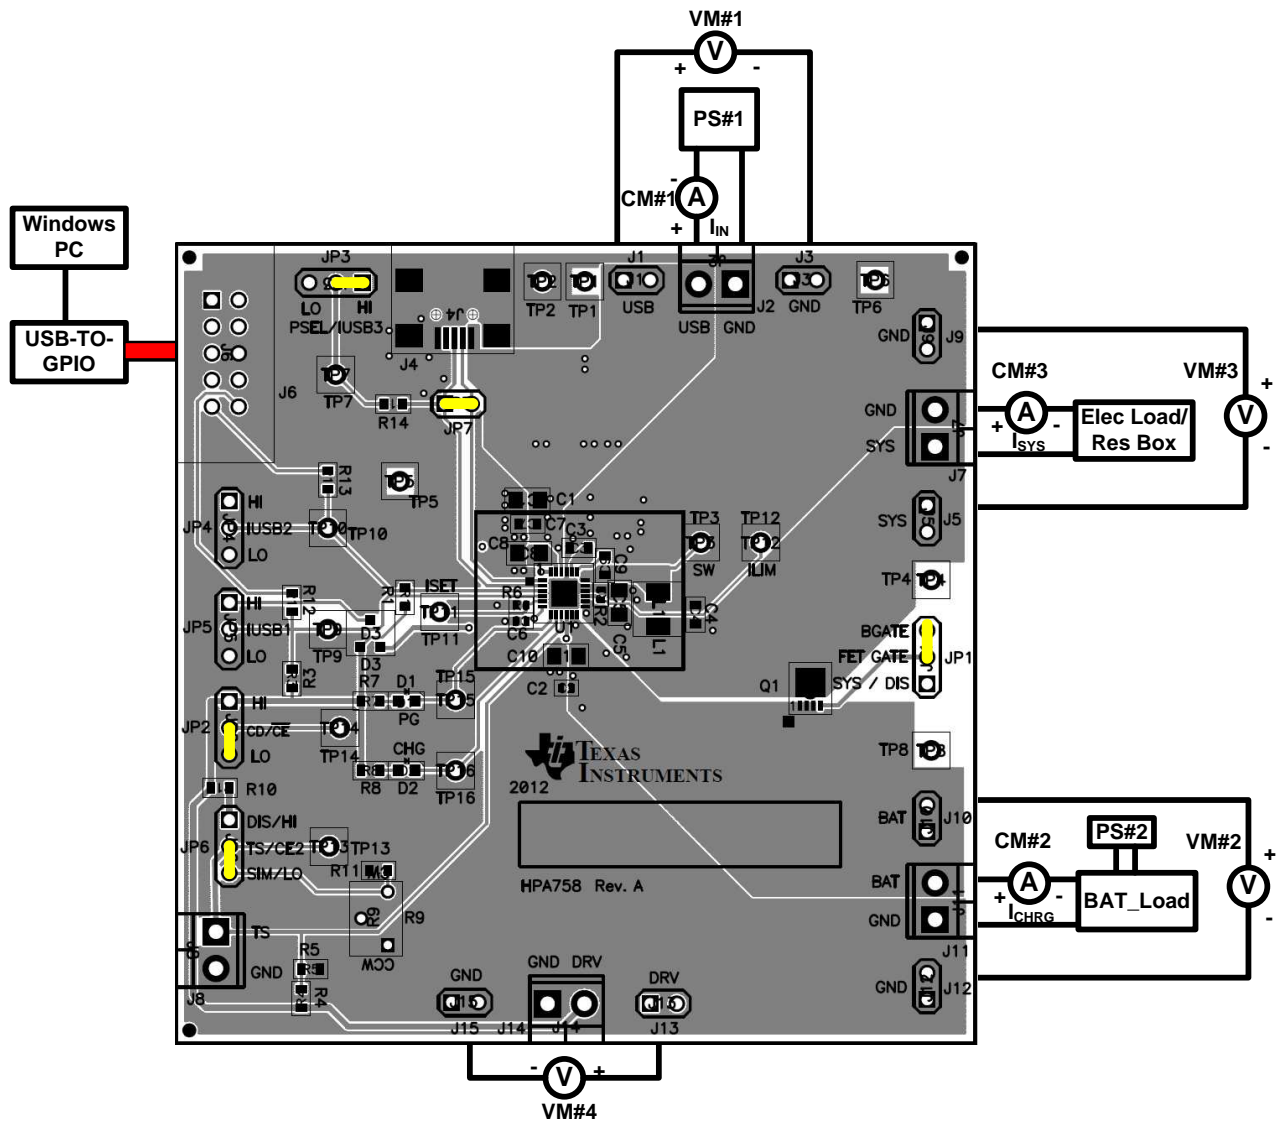

Figure 4. Original Test Setup for bq24270/271EVM (HPA758)
10. After the preceding steps have been performed, the test setup for HPA758 is configured as shown in Figure 4